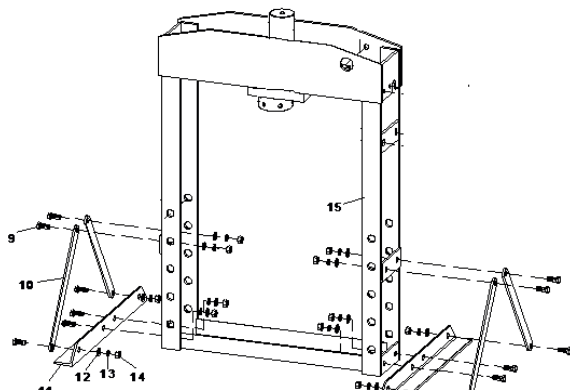

Fig. 04
- Attach the base section and support to left and right connecting plate. (Fig. 04)